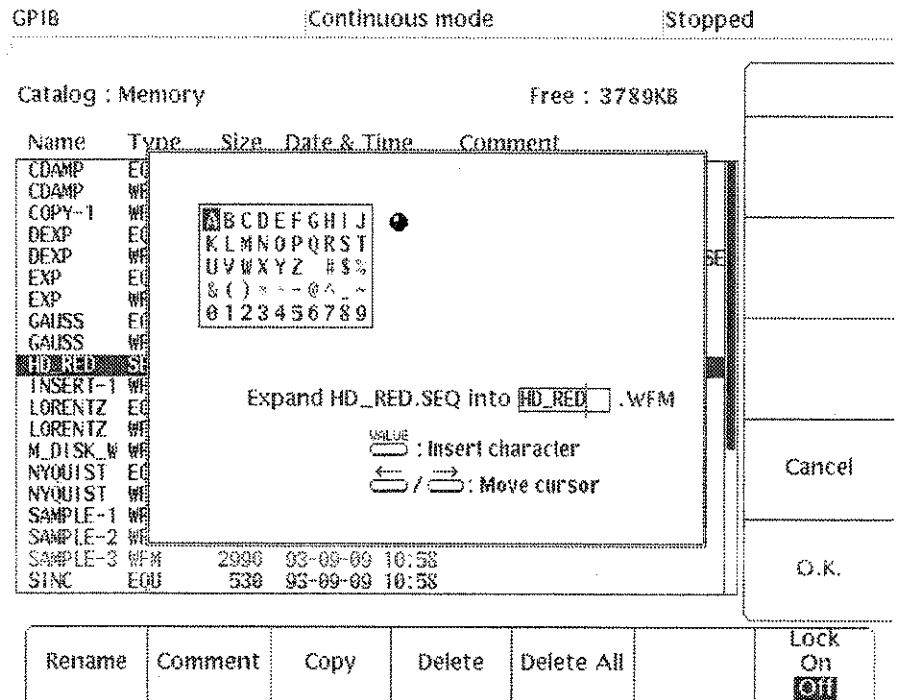

Figure 4A-6: Menu Displayed When Expand SEQ into WFM is Selected
- Step 3:** Select **Expand SEQ into WFM** from the side menu. You will be asked to provide a name for the resulting waveform file. See Figure 4A-6. If necessary, change the default name. See "Renaming a File" described above.